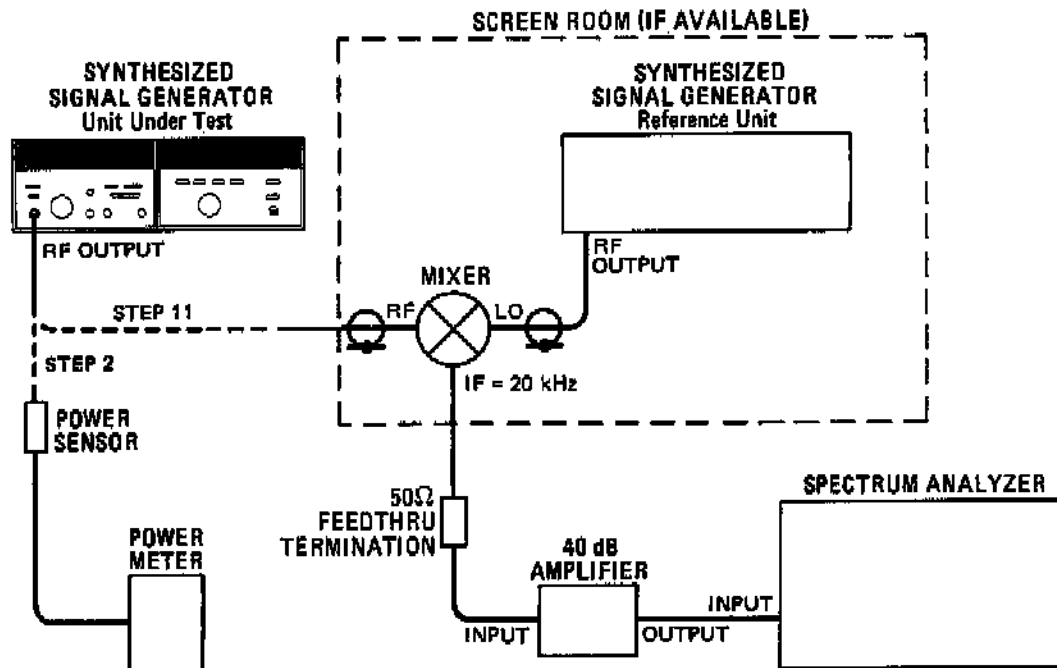

Figure 4-11. RF Output Level and Accuracy Test Setup
11. Disconnect the power meter. Connect the other equipment shown in Figure 4-11. If necessary, paint the non-movable seams of the Type-N to Sealectro connectors and semi-rigid cables with a conductive coating.¹